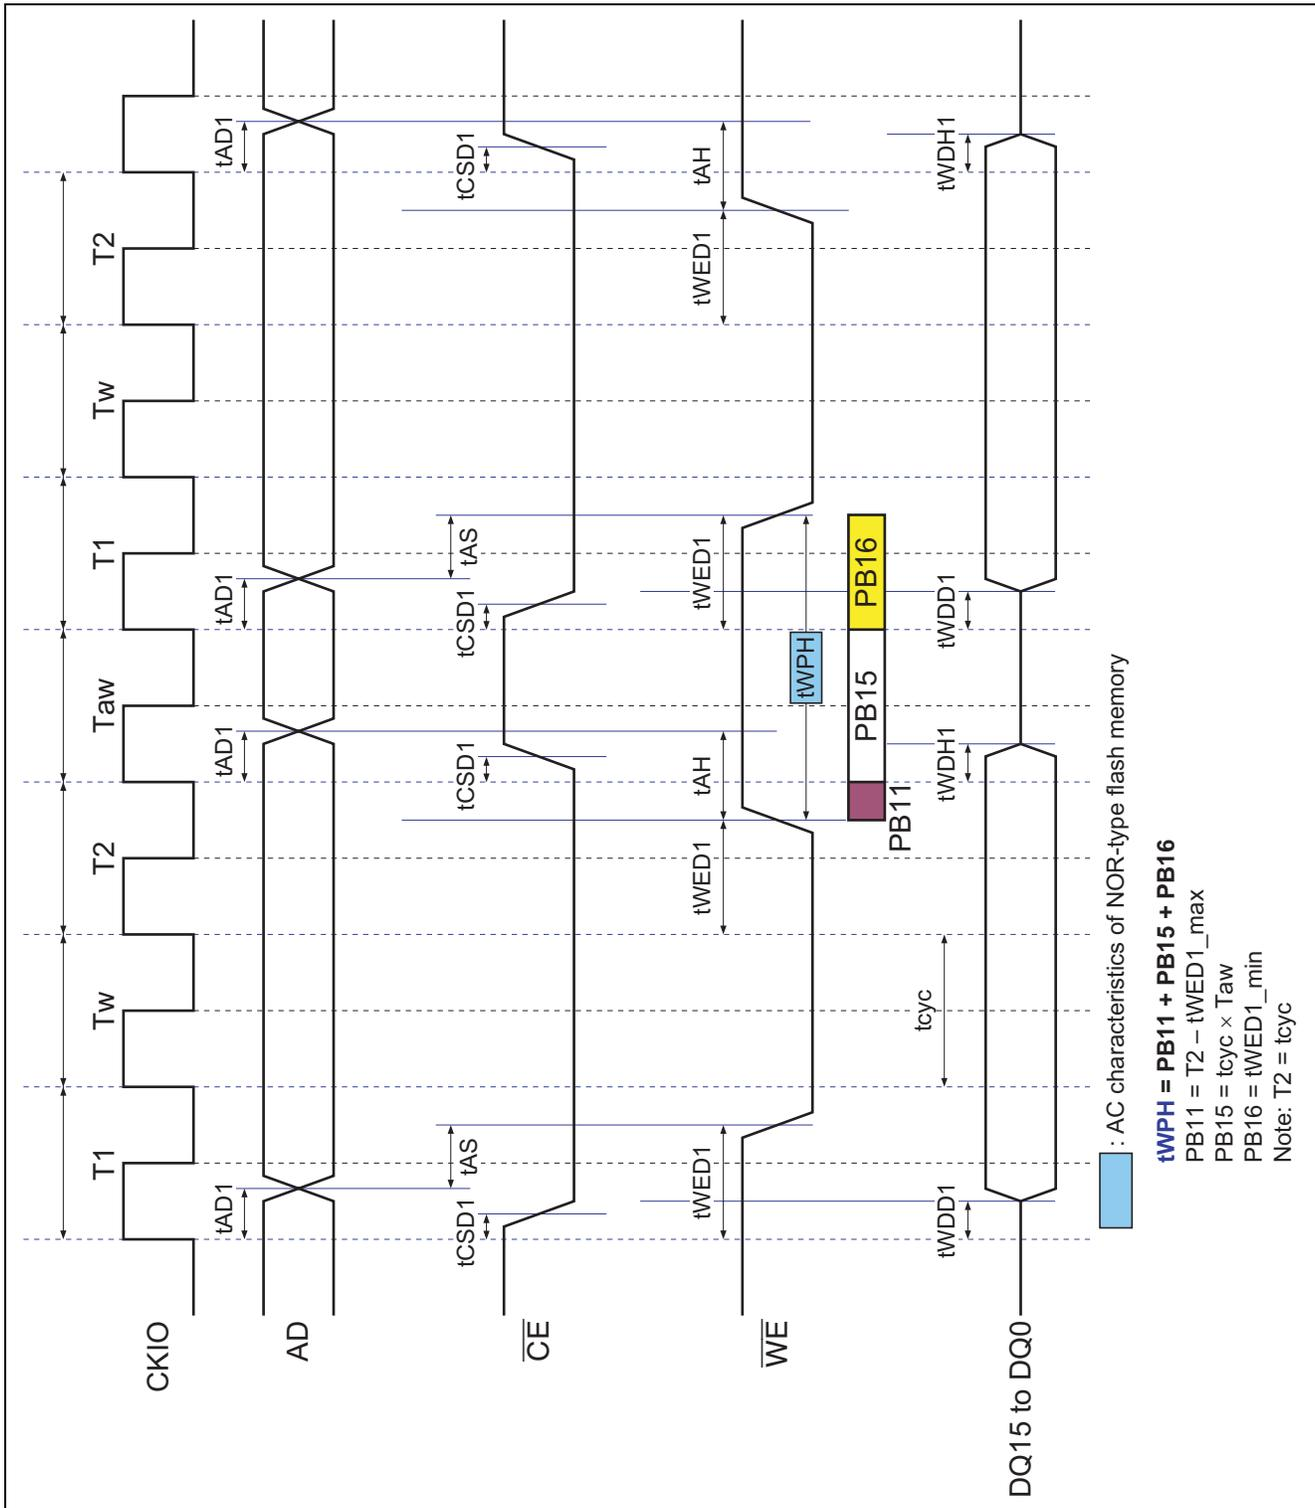

Figure 15 Write Timing of NOR Flash Memory When W = 1 and Taw = 1 (6)
- tWPH(min) ≤ $\underbrace{(T2 - tWED1_max)}_{PB11} + \underbrace{(tcyc \times Taw)}_{PB15} + \underbrace{(tWED1_min)}_{PB16}$ (figure 15)
Figure 15 shows write timing for NOR flash memory (6).